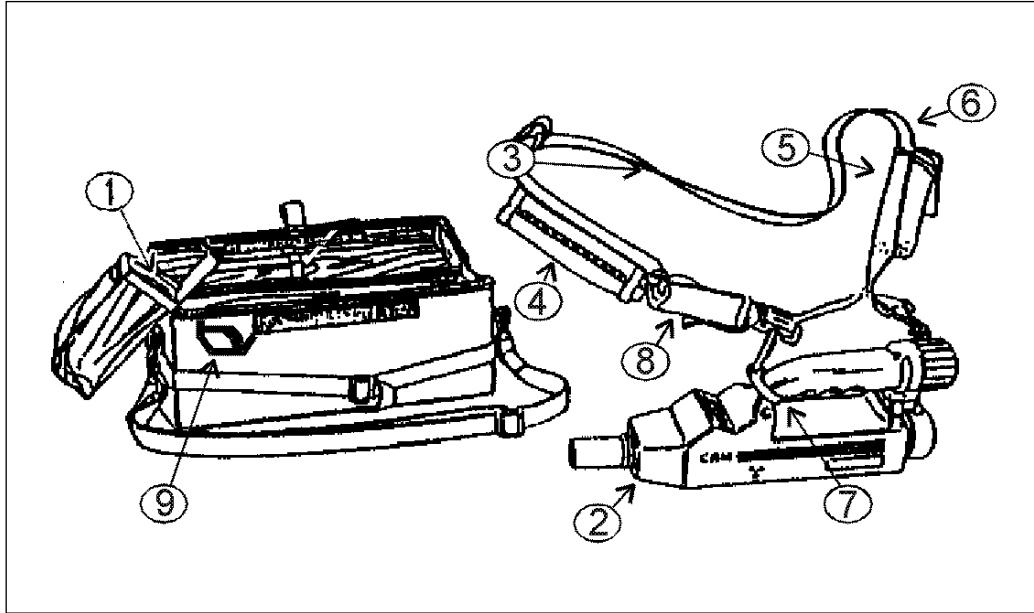

Fig 4-22. CAM and accessories.
- (1) Description. The CAM is a portable, hand held instrument designed to determine and to indicate the hazard from nerve or blister agent vapor present in the air (figs 4-22 to 4-23). Use the CAM to search out clean areas; to search for and to locate contamination on personnel, equipment, ship's structures, aircraft and land vehicles, buildings and terrain; and to monitor for the effectiveness of decontamination.